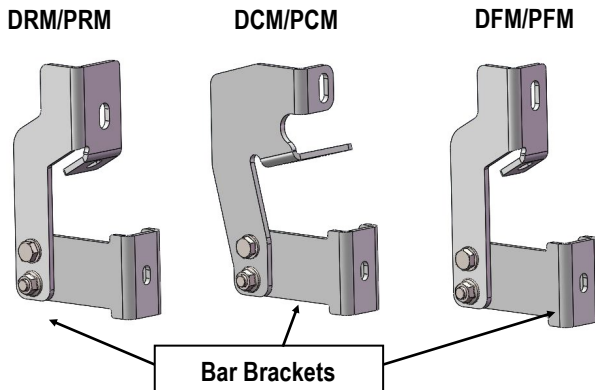

Fig 4a
Assemble Passenger Mounting Brackets & Bar Brackets with (2) M10X1.5-25mm Hex Bolts, (2) M10 Flat Washers and (2) M10 X1.5 Hex Nuts, as shown (Fig 4a, Fig 4b). Don't fully tighten at this time.